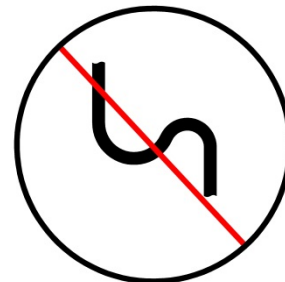

Figure 3A.
3. Jacket Heater Outlet: Install the hose between the outlet of the jacket heater and where the coolant will be returned to the engine. The hose must be routed to have a continuous rise from the heater to the engine. See Figure 3A.